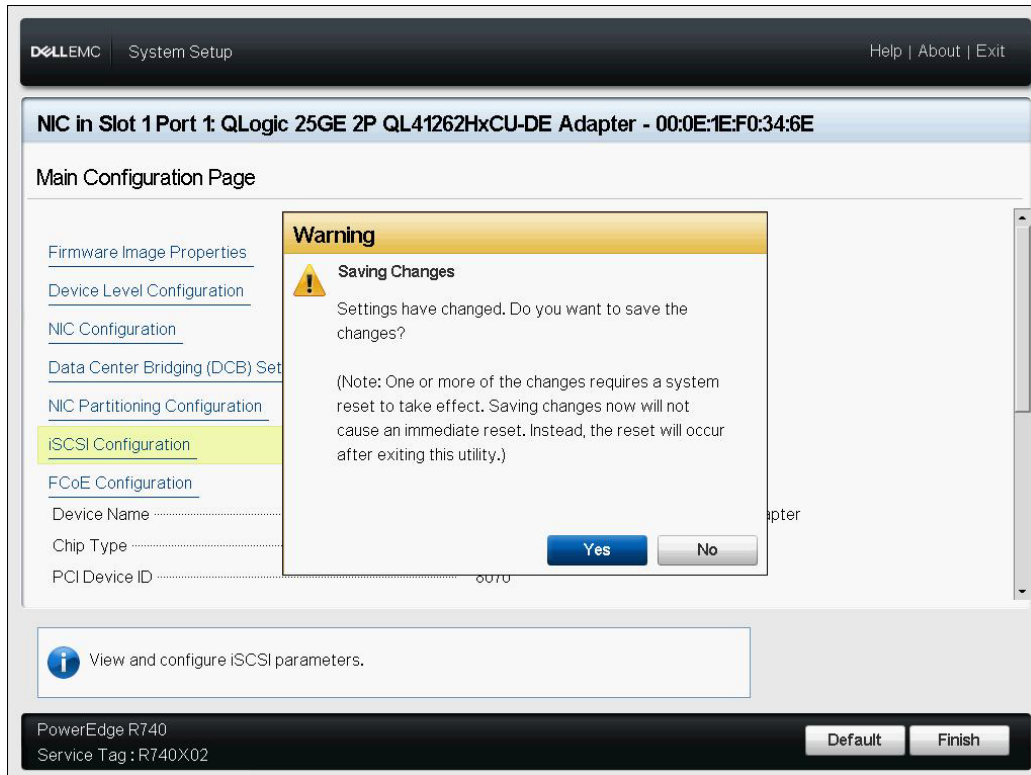

Figure 9-14. System Setup: Saving iSCSI Changes
14. Click **Yes** to save changes, or follow the OEM guidelines to save the device-level configuration. For example, click **Yes** to confirm the setting change (Figure 9-14).